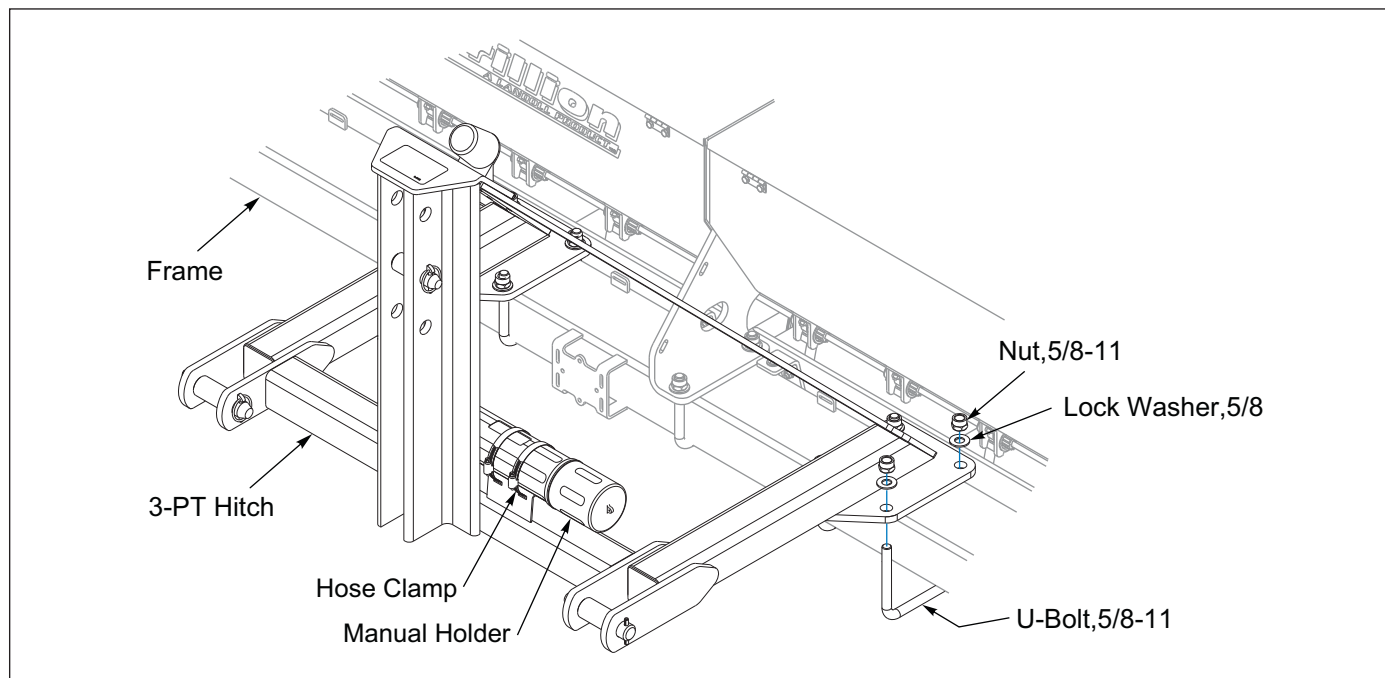

Figure 2-3: 3-PT Attach 3-PT Hitch (After 08/2025)
2. Center 3-PT Hitch Assembly in relationship with the Seed Box Center Bracket. Attach 3-PT Hitch to Seeder Frame Tube with 5/8-11 U-Bolts, Lock Washers and Nuts. **See Figure 2-3.**